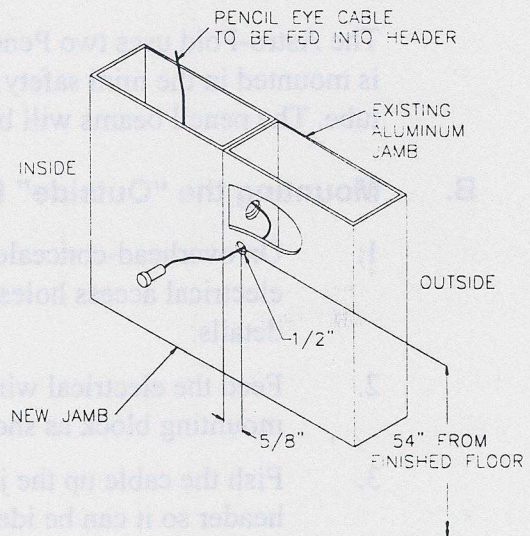

Figure 15: Pencil Beam Installation for Surface-Applied Units.
6. When installing a surface-applied unit on the inside of existing jamb tubes, the eyes must be mounted in the existing jamb without the mounting block. The preparation detail is shown in Figure 15. The installer will also have to drill holes to allow the beam wire to pass from the old jamb tube into the new jamb